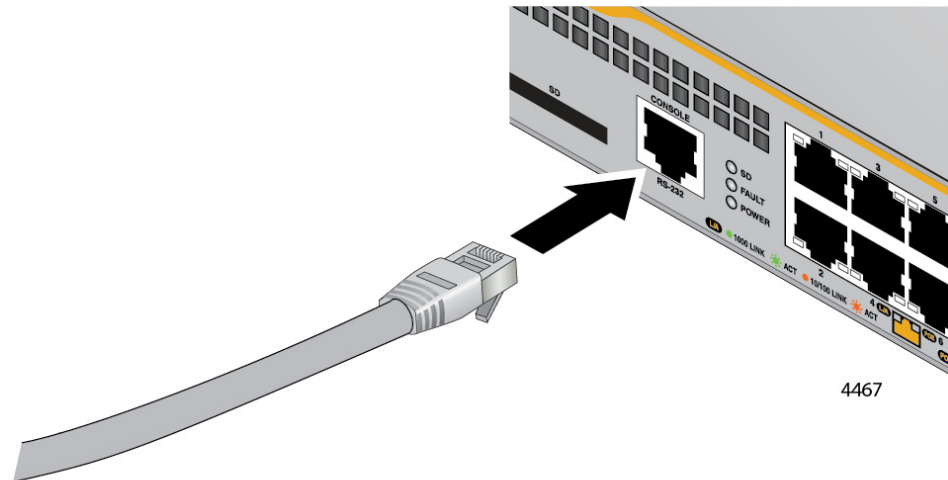

Figure 18. Connect Management Cable to Console Port
1. Connect the RJ45 connector on the management cable to the console port on the front panel of the switch. Refer to Figure 18.